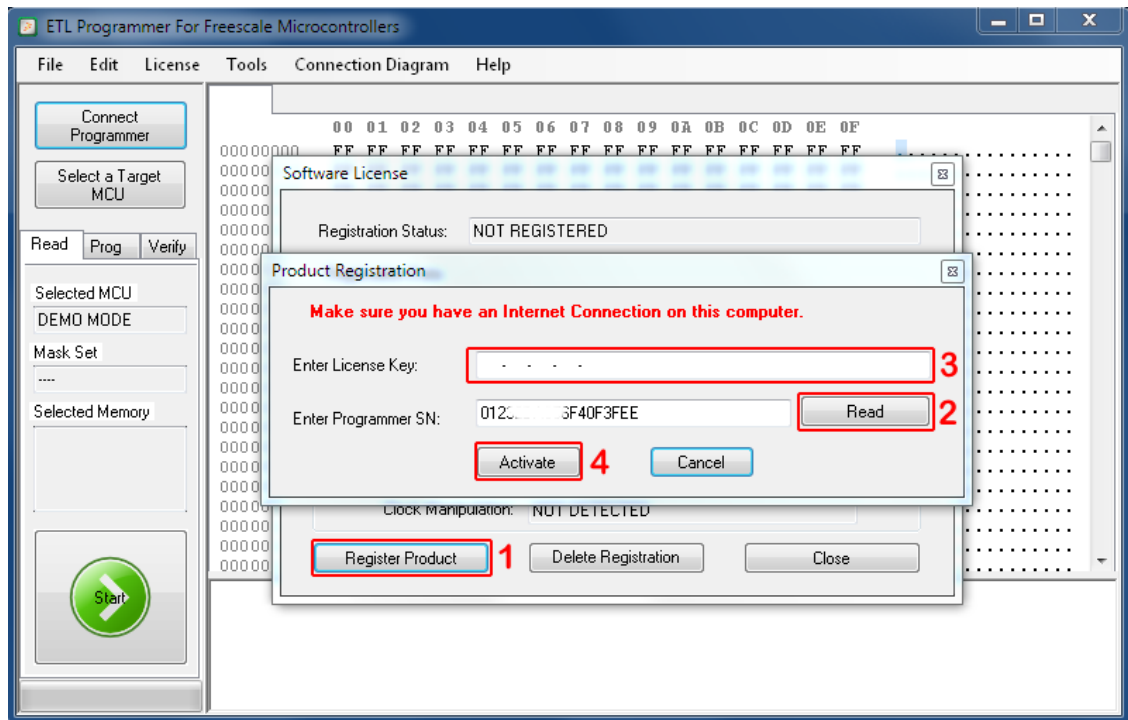

Figure 15 MC9S12(X)-Programmer software activation, step 2
- Press the "Read" button to read the HYPERF PROG board serial number. (Figure 15).